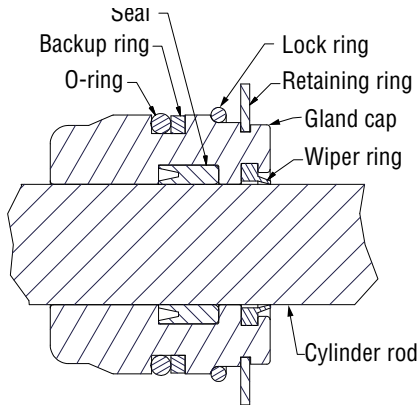

Figure 4-6, Gland Cap Seal
- Install the seals and wipers in the gland cap. Note the direction of the seals. The cupped side or O-ring side of the seal should be facing the piston. (Figure 4-6)